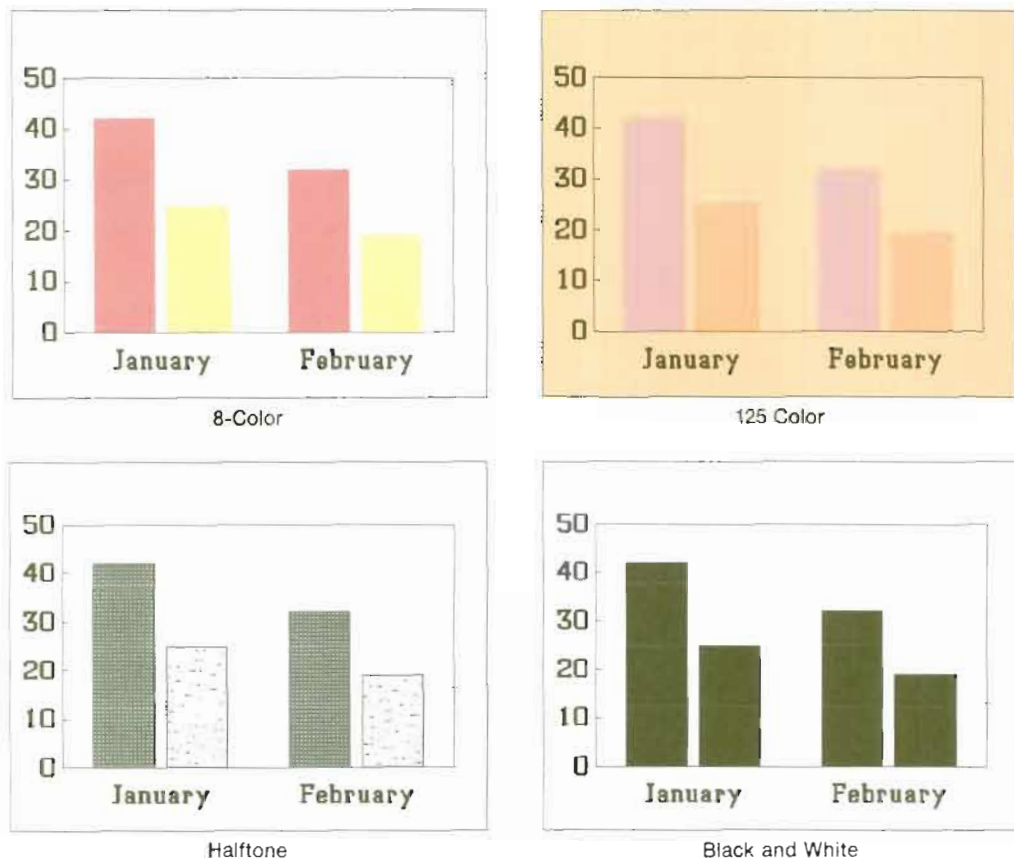

Figure 7-2. Raster Dump Types
- 8-Color, 125-Color, Half-tone, or Black and White Pictures (See figure 7-2.)